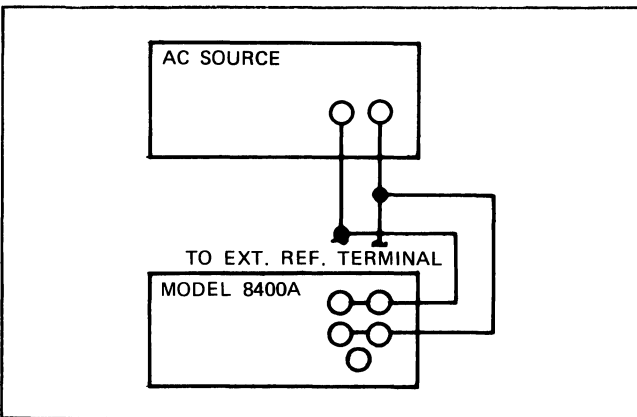

Figure 6-3. EQUIPMENT CONNECTION FOR TESTING.
- a. Connect the ac voltage source to the Model 8400A as shown in Figure 6-3.